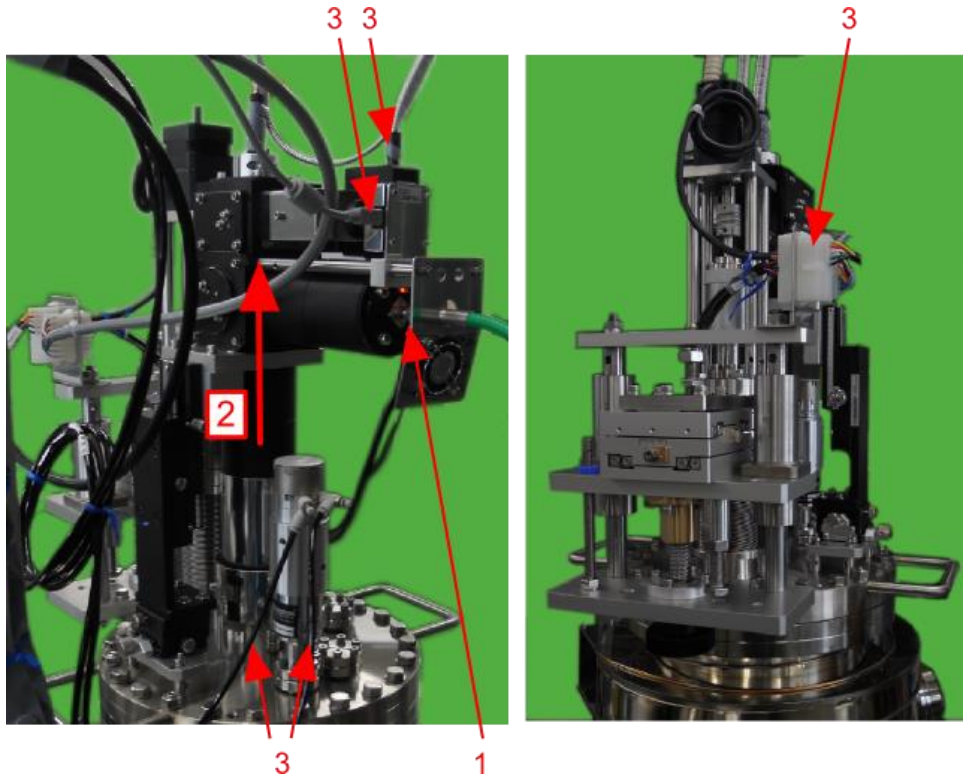
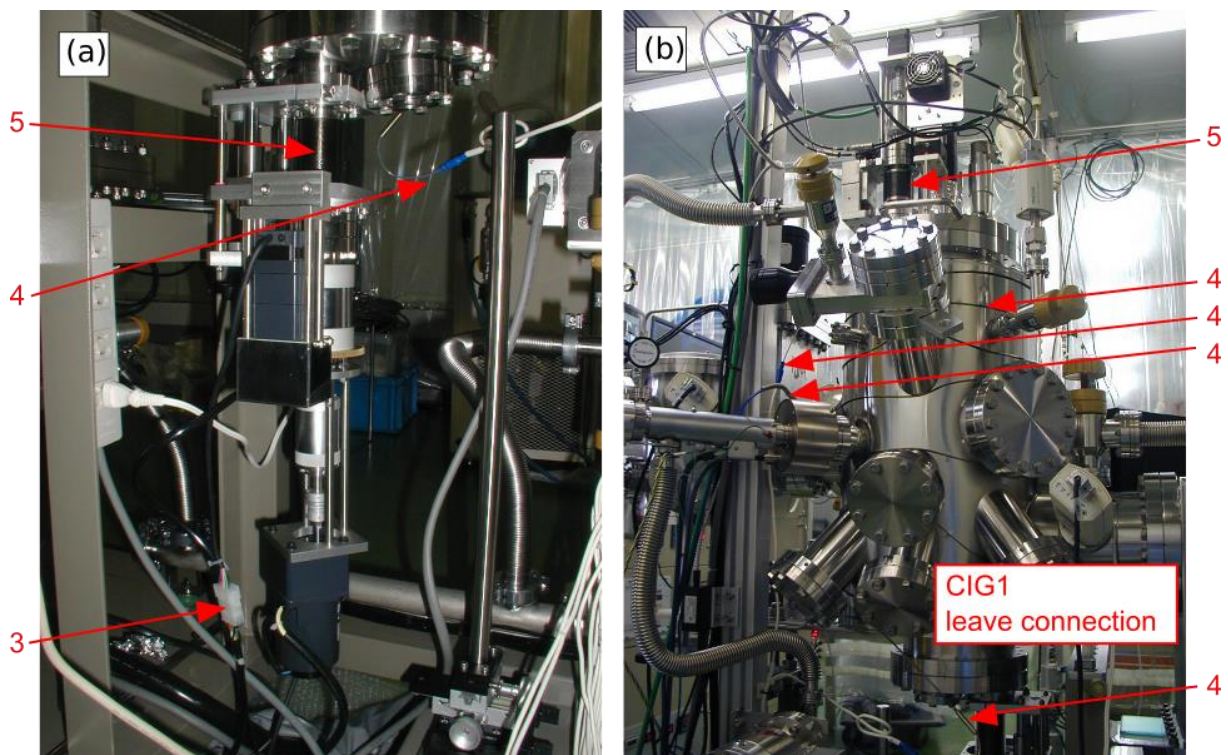

Figure 4: Removal of parts and cables/pipes near IR laser diode heating unit.
Figure 5: Preparation for chamber baking (a) near target manipulator and (b) around chamber.
- (1) Remove the laser fiber of the laser-diode substrate heating unit. Then attach an end cap of the laser fiber (see Figure 4).
- (2) Remove the lens hood of the laser-diode substrate heating unit by loosening two fixing screws to avoid thermal damage during chamber baking. And remove the sensor part of the pyrometer. Check the mount position of the pyrometer sensor part by ink-marking when removing (see Figure 4).
- (3) Remove the control/sensor cables and pipes near the chamber near the laser-diode substrate heating unit (Figure 4), the target manipulator unit (Figure 5) or the chamber to avoid thermal damage. But leave the pump (TMP) cable and the sensor cable of the vacuum gauge (IG-Main) to check pressure during chamber baking.
- (4) Check the connection of a baking heater line which is sheath heater at chamber side with white cable extension. And check the temperature monitor cable connection and temperature sensor mount at side of the chamber.